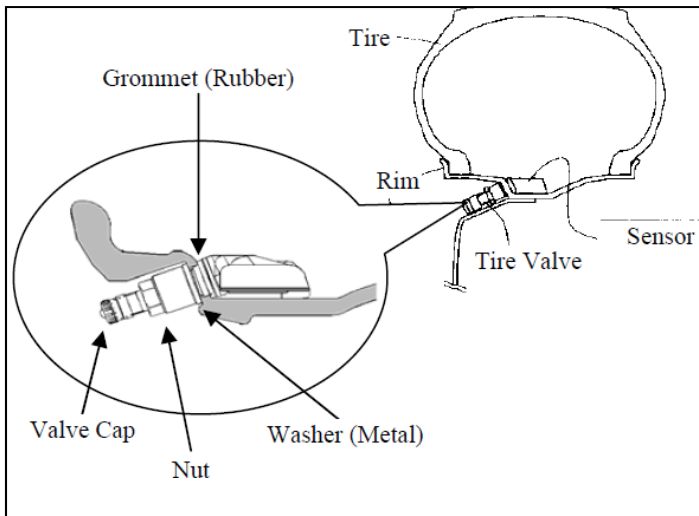

Figure 5
- e. Insert the tire pressure monitor valve sub-assembly into the valve installation hole from the inside of the rim and bring the valve stem to the outside. See Figure 5.